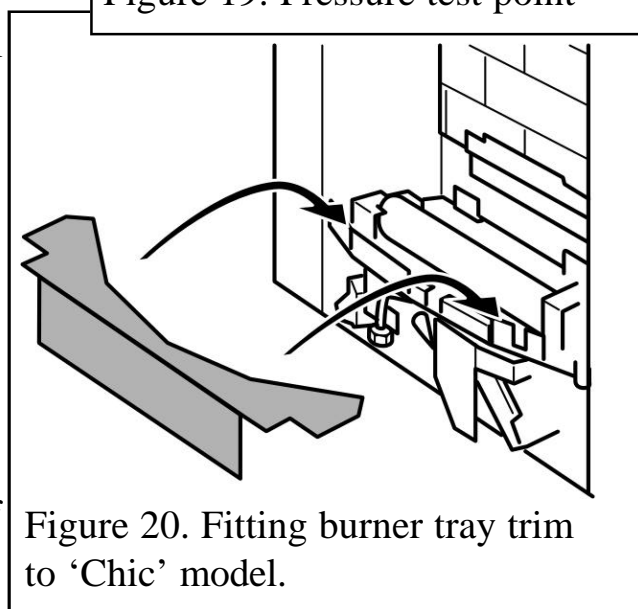

Figure 20. Fitting burner tray trim to 'Chic' model.
1. Fit the burner tray trim over the front rim of the burner tray. There are two tags which locate over the edge of the burner tray. Push the trim fully down (See figure 20).